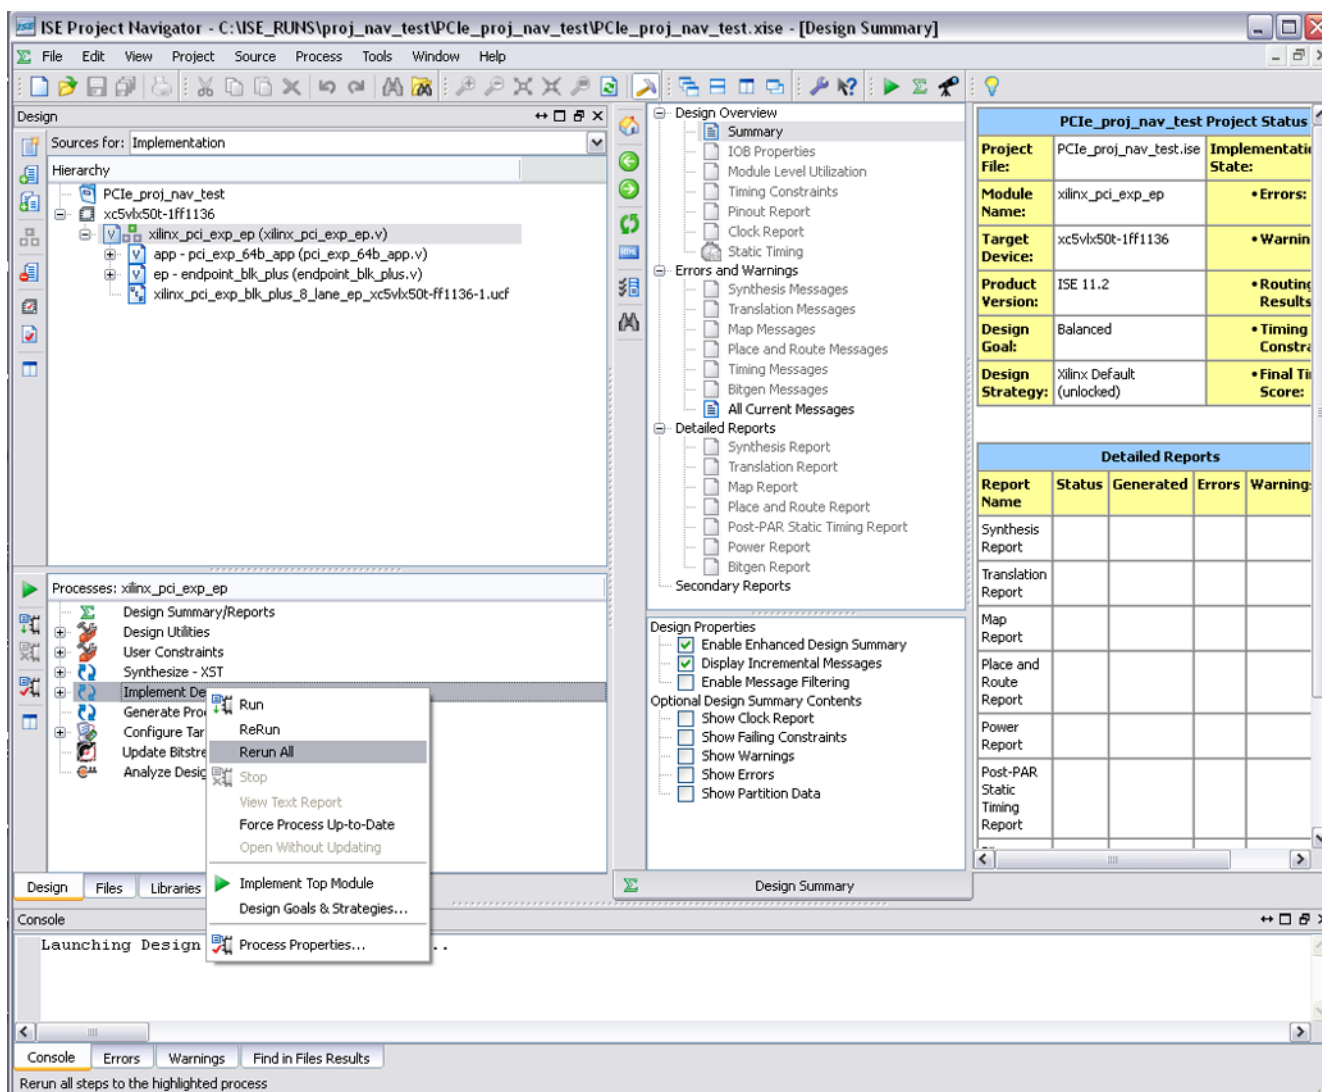

Figure 3-14: Implementation Timing Results
14. From the Processes window, right-click Implement Design select Rerun All to start the implementation, as displayed in Figure 3-14.